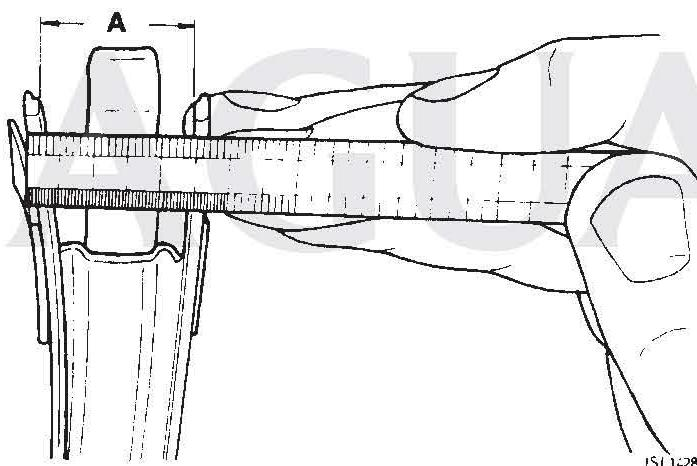

FIG 2
5. Refer to Fig 2, which shows the lower guide channel being measured at the position it must be opened out to prevent the door glass sticking. The nominal dimension at this position should be 19.8 to 20.8 mm; subsequently the channel should be opened up to 26,0 to 28,0 mm.